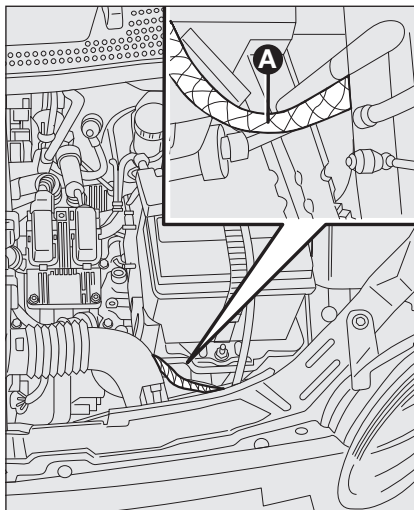

fig. 1a – Duratec Versions
- ☐ connect a second cable to the negative terminal – of the booster battery to an earth point **A** on the car to be started (**fig. 1a-1b**);